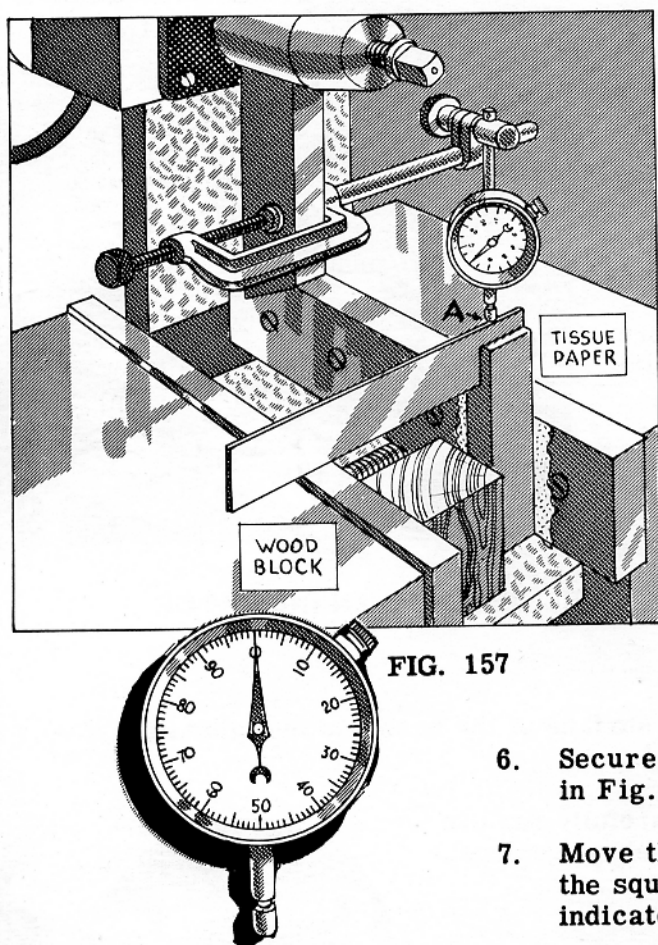

FIG. 157
4. Place a piece of paper against the fixed jaw of the vise. Next to the paper in a vertical position, place the beam of the square as illustrated in Fig. 157.
5. Place a block of clean wood between the beam of the square and the movable jaw (Fig. 157). Then, tighten the vise sufficiently to hold the square in this position.
6. Secure the indicator to the tool holder as shown in Fig. 157.
7. Move the ram and the table to bring the blade of the square directly under the contact point of the indicator as at (A) in Fig. 157.